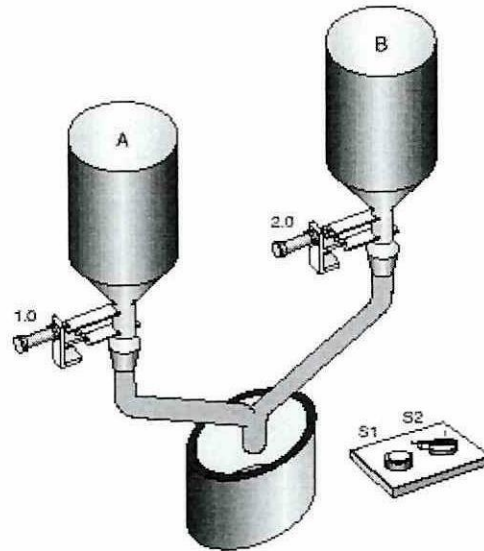

Figure Q1.3
- (e) **Figure Q1.3** illustrates the control system of a bulk material mixing system consisting of a normally open push button (S1) and a normally open selector detent switch (S2). **Figure Q1.4** shows the electro-pneumatic circuit diagram for the system. Once the appropriate silo has been selected using the selector detent switch (S2), pressing the push button (S1) opens the silo accordingly. Both silos use single solenoid valves to control double-acting cylinders respectively. The cylinders are extended in the initial position. Design the control system using a ladder diagram to carry out this process. (6 marks)